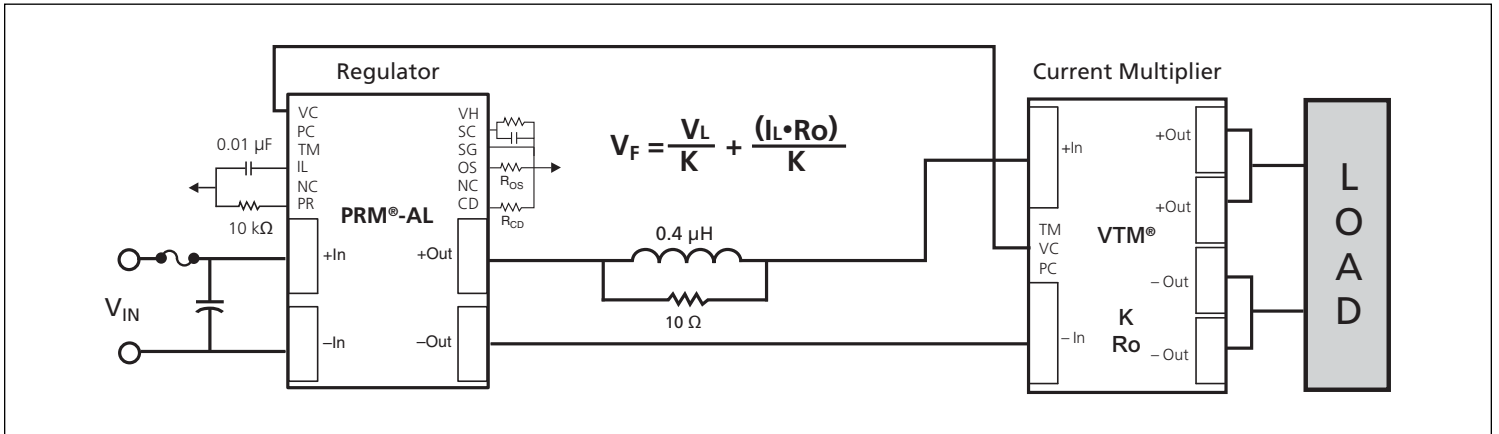

Figure 16 — Adaptive Loop compensation with soft start using the SC port.
- V_f = PRM output voltage, the Factorized Bus (see Figure 16)
Where V_{fd} is the desired factorized bus and V_{fs} is the set factorized bus. A low voltage source can be applied to the SC port to margin the load voltage in proportion to the SC reference voltage. An external capacitor can be added to the SC port as shown in Figure 16 to control the output voltage slew rate for soft start.